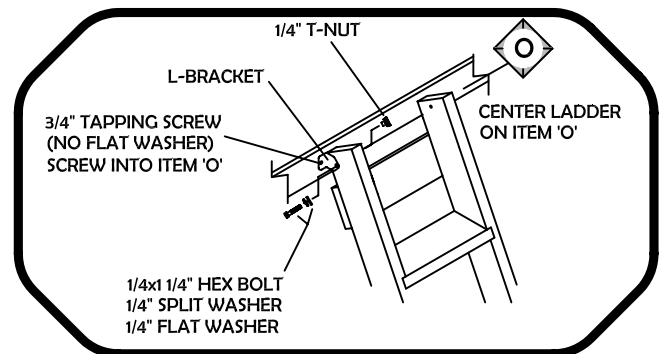

FIG. 5
Step 3: Prop deck ladder assembly against fort rail 'O' on uprights 'C'. Center L-brackets on fort rail and attach with 3/4" tapping screws. (see fig.5)